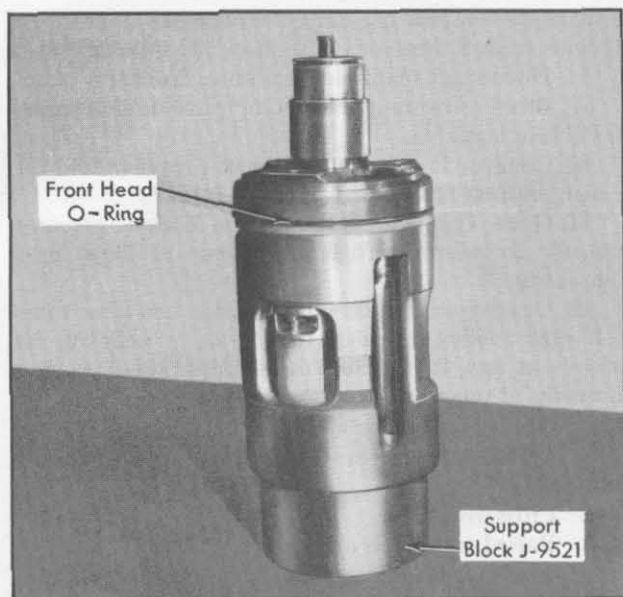

Fig. 1-96 Front Head O-Ring Installed
8. Generously lubricate angled groove at lower edge of front head casting with 525 viscosity refrigeration oil and install new O-ring in groove, Fig. 1-96.